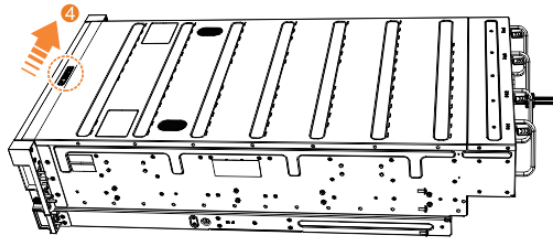

Figure 146. Locking the top cover
10. Lock the cover into position by sliding the release lever 4, as shown in Figure 146 on page 182